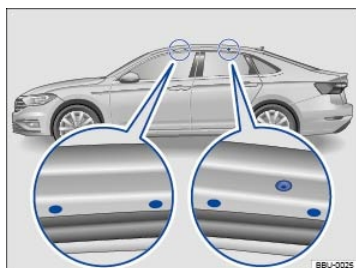

Fig. 142 Mounting points for the base carrier and roof rack.
The front mounting holes are on the underside of the roof frame. They are sealed with plastic screws that must be removed before installation ⇒ Fig. 142 (magnified view on left). The rear markings for the base carrier are on the underside of the roof frame ⇒ Fig. 142 (magnified view on right).
- Secure the roof rack base carrier only at the attachment points shown in the illustration ⇒ Fig. 142.